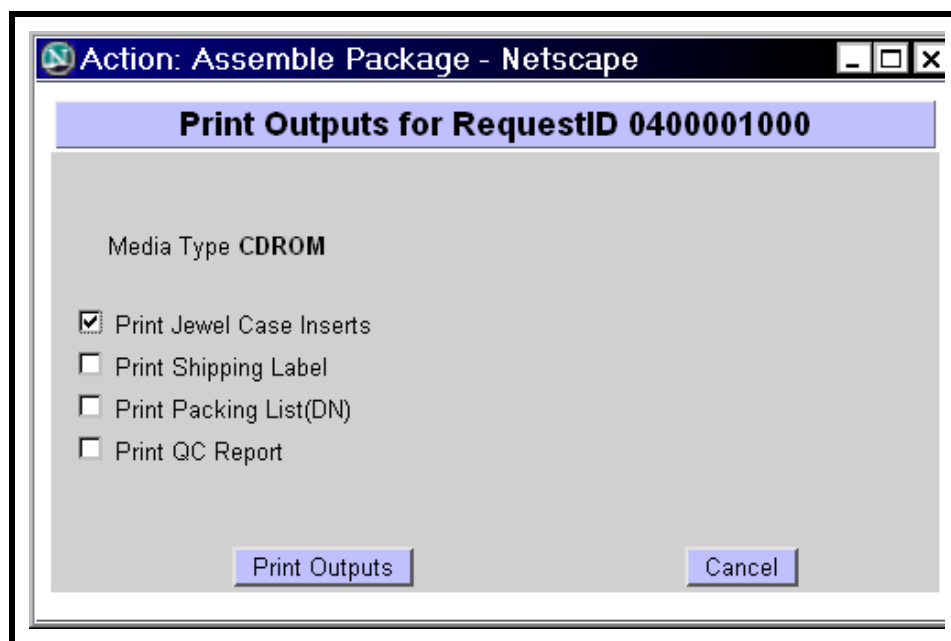

Figure 15.12-11. Print Outputs Page
The procedure for **Printing PMD Outputs** (Figure 15.12-11) is used for reprinting certain documents associated with PMD production, including shipping label, DN, and/or (in the case of CD-R/DVD-R) the jewel case insert. The procedure is performed in response to an **Assemble Package** action displayed in the **Action Type** column of the **Media Creation Console** page. **Printing PMD Outputs** is typically performed in association with other procedures (e.g., **Monitoring/Controlling PMD Media Creation Using the OM GUI**).
- A **Print Outputs** dialog box is displayed. (Figure 15.12-11).